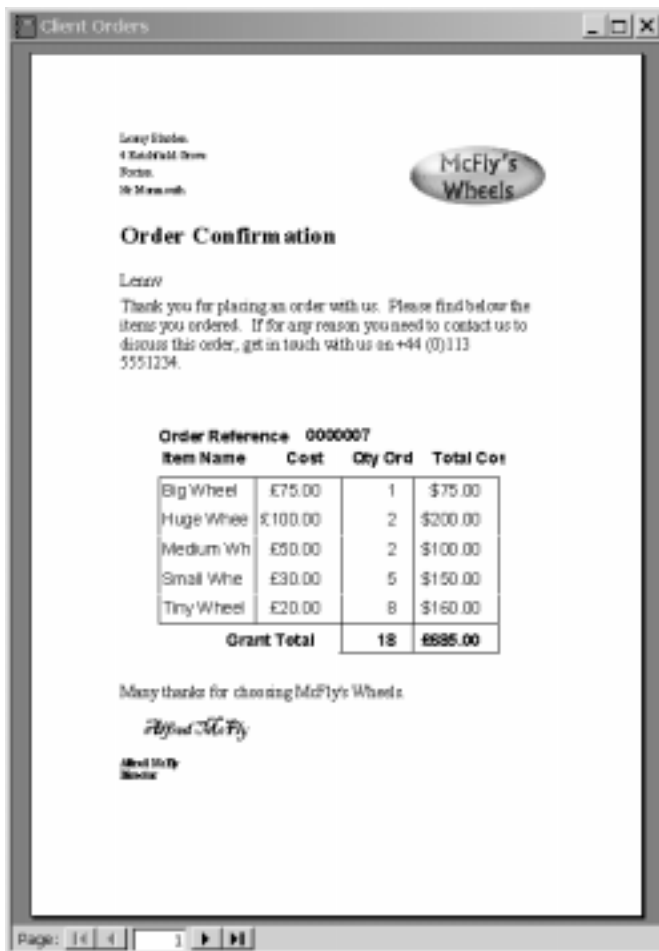

Figure 1. Our original document, shown as an Access report.
**W**e were recently posed a problem by a client: The user wanted to produce, from Access, a set of letters to go to customers (see Figure 1 for a copy of the sample letter). Each letter included a number of line-item records (a different number for every customer) in the body of the document. The problem was that the user needed to be able to customize the format of the letter at any time—and without calling us.